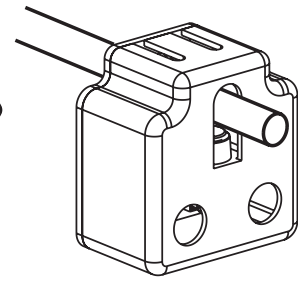
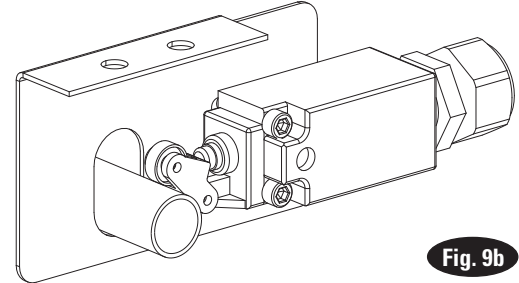

Fig. 9a
Fig. 9b
**10a. Overhead Assembly:** Fig. 10: Adjust overhead to appropriate dimension. Install (4) M10-1.5 x 20mm HHCS & M10-1.5 Flanged Locknuts, do not tighten. Slide Switch Box over switch bar ensuring knock out holes face the power unit column, Fig. 9a and Fig. 9b. Use (2) 1/4"-20NC x 3/4" lg. HHCS, 1/4" Flat Washer, and 1/4"-20NC Nuts to mount switch box to overhead, see Fig. 11.